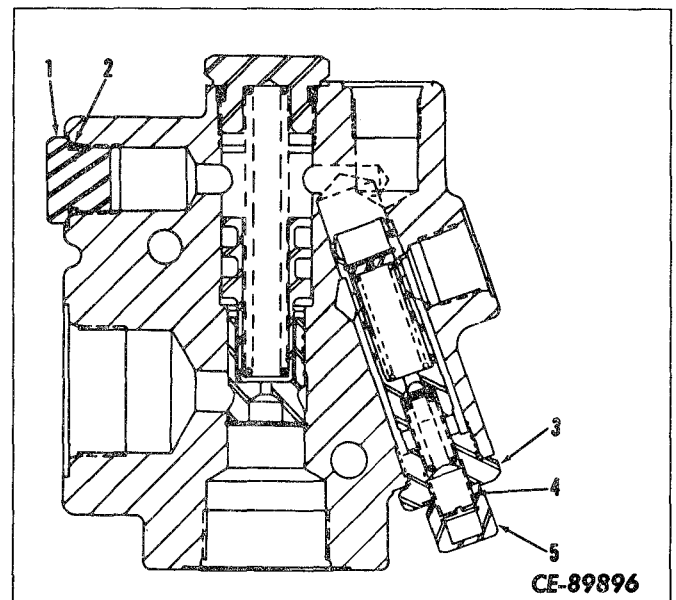

Figure 11-19
b. Remove the plug (1, Fig. 11-19) from the upper rear of the flow divider.